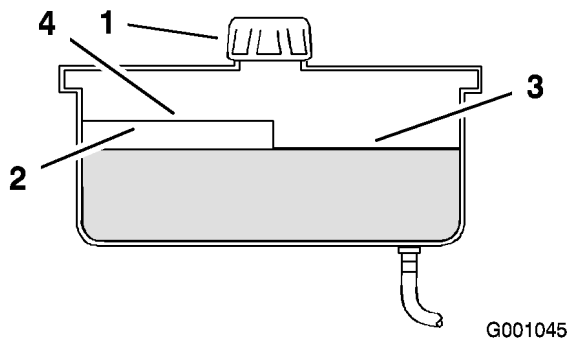

Figure 51
2. Clean the area around filler neck of hydraulic tank (Figure 51).
3. Remove the cap from the filler neck. Look inside to check if there is fluid in the reservoir (Figure 51).
Note: The fluid level should be to the top of the hot level of the baffle, when the fluid is hot (Figure 51).